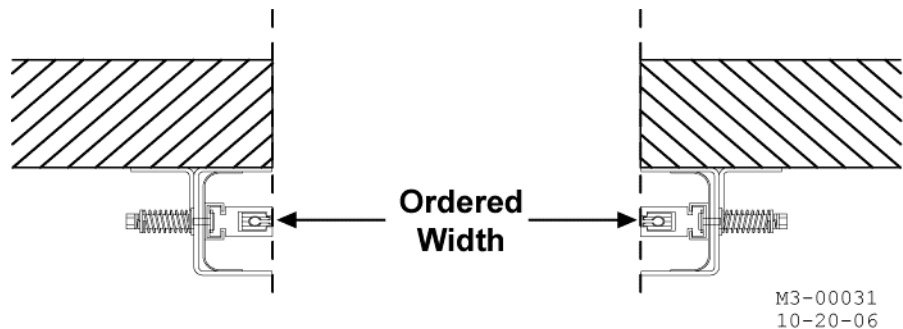

Figure 2-16: Inside Dimension Measurements
- Measure the inside dimension <W> between the two side-guides ensuring that it is the same at the top, middle and bottom. See Figure 2-16.